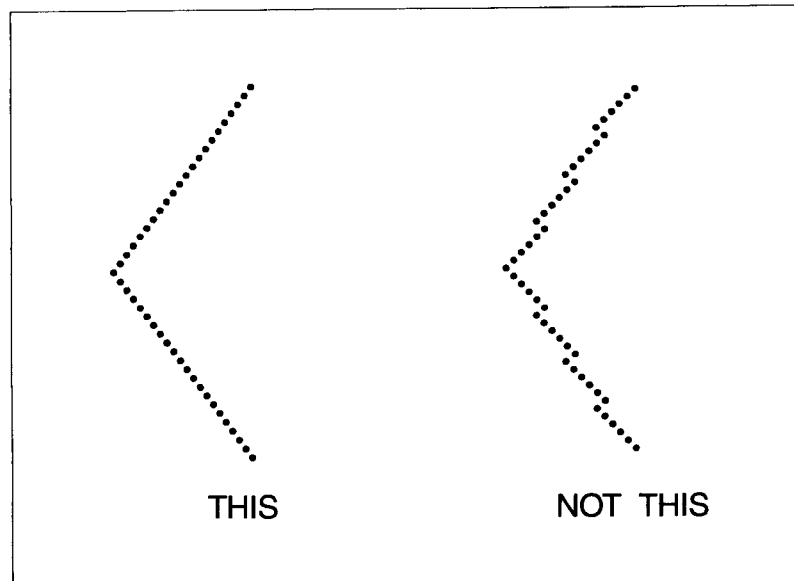

Figure 5-14. Selftest Subtest 5 Herring Bone Pattern
- b. Examine the test pattern (herring bone). If the lines are straight (not jagged), exit this procedure; if the lines are still jagged, continue with this fine adjustment procedure (see Figure 5-14).